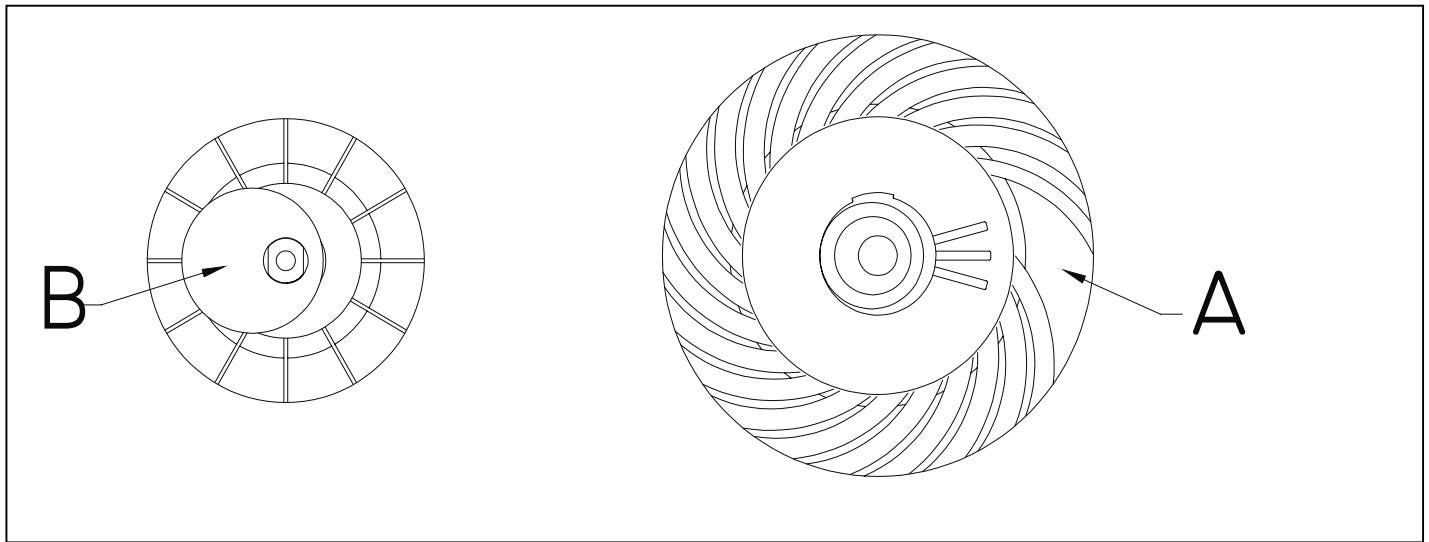

FIG. 1
The armature assembly **must** be correctly aligned with the counterweight/fan during installation. The heaviest section of the counterweight/fan (A) Fig.1, must be oriented 180° away from the balancing weight (B) Fig. 1, on the armature